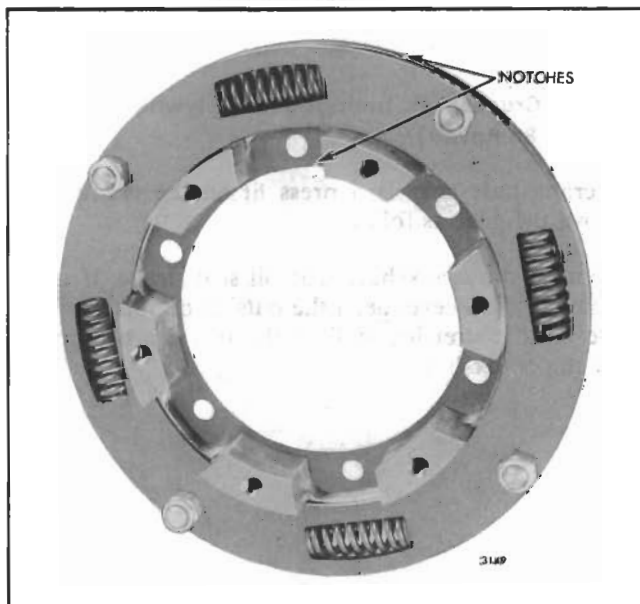

Fig. 2 – Proper Location of Notches in Damper Assembly
3. Place the hub on the inner plate with the notches in the hub and the inner plate located as shown in Fig. 2.